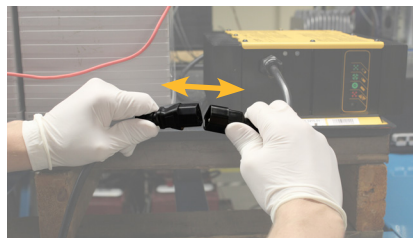

Figure 5: Disconnect AC power
11. Disconnect AC power. (See Figure 5)
14. Disconnect the charger from AC power and wait for the LED indicator display to turn off. (See Figure 5)